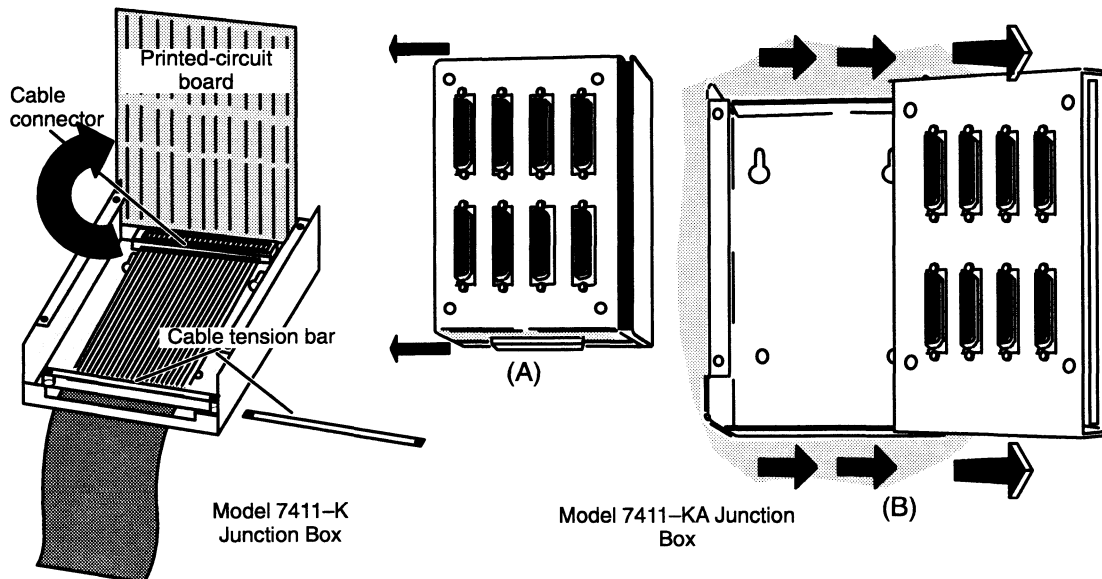

Figure D-14 Disassembling a VAC/16 Junction Box
3. If you are mounting a Model 7411-K J-box, pull the top (connector) half of the J-box forward to reveal the J-box tension bar, as shown in Figure D-14.
To disassemble a Model 7411-KA J-box, pull the top (connector) half of the J-box sideways (A), and then pull it up and out (B), as shown in Figure D-14.